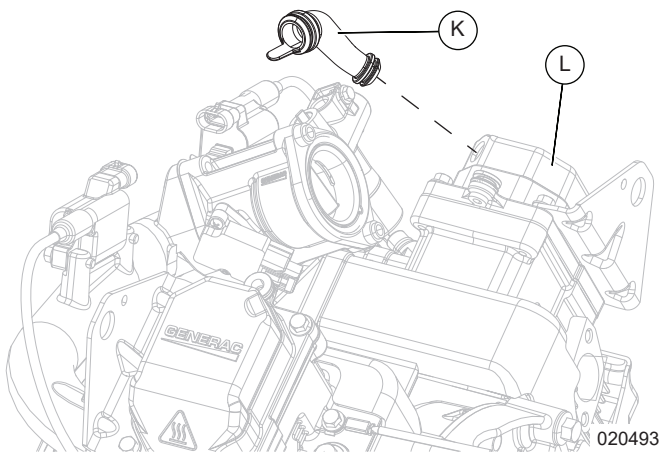

Figure 12-11. Install Breather Hose into Rocker Cover
- See Figure 12-11. Install breather hose (A) into rocker cover (B) facing PTO side of engine. Soapy water or spray silicone lubricant may be needed to fit breather hose into rocker cover hole.